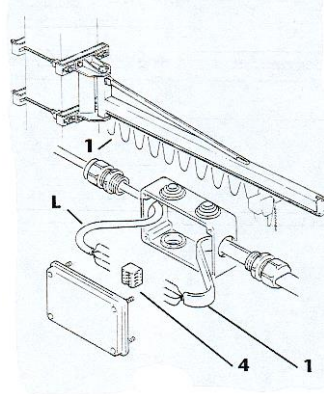

fig. 63
4. Connect the electric cable 1 to the terminals 4 contained in the connector block, to be applied to the pillar or load-bearing wall and to which the cable of line coming from the power supply will be connected (fig. 63).